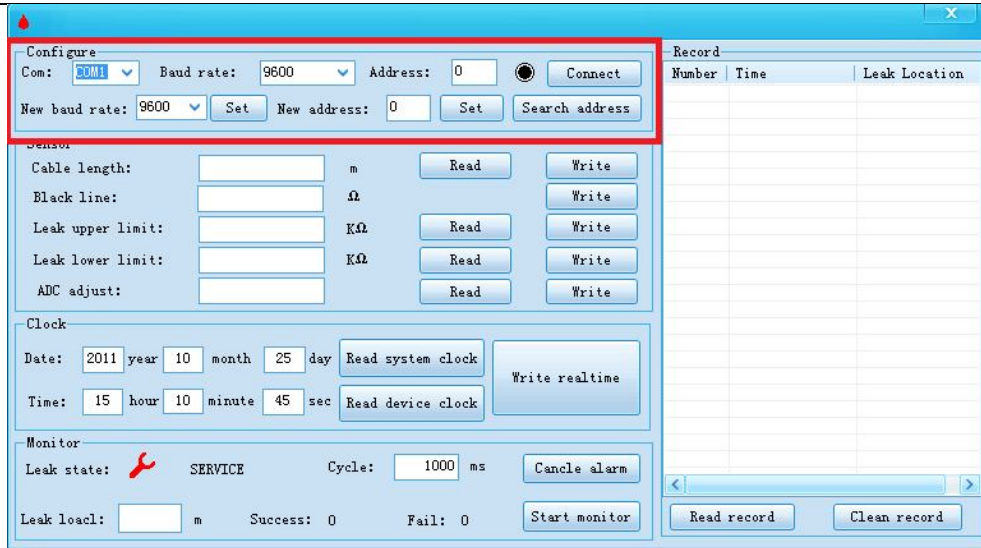

Figure 4:Address and baud rate settings
- Open configuration software as below Figure 4.